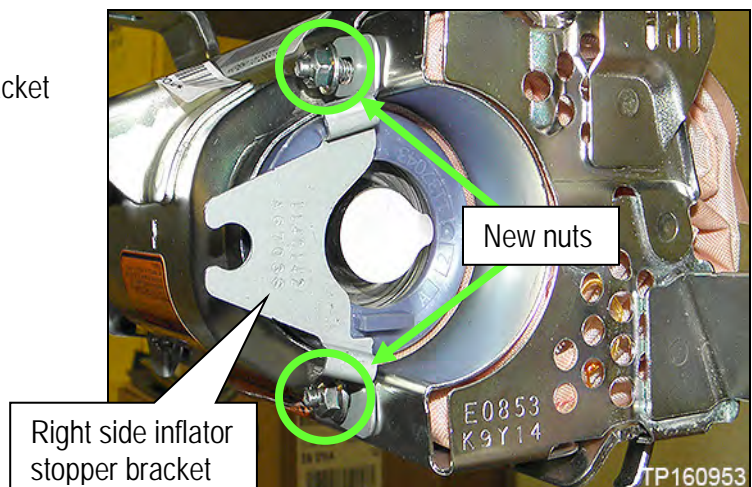

Figure 28
4. Install the **new** right side inflator stopper bracket (shown in Figure 28) with nuts finger tight.